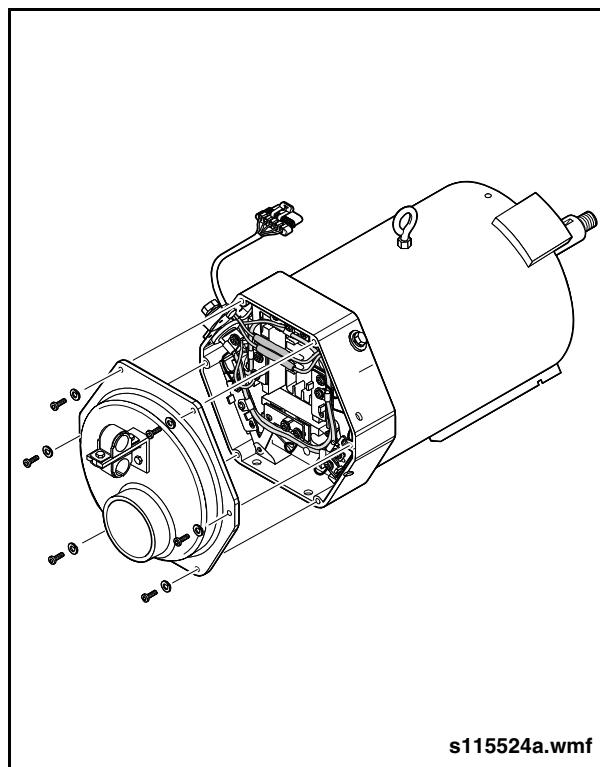

Fig. 9-16: Duct Housing Removal
4. Remove the duct housing from the Anti-Drive End (ADE). *See "Fig. 9-16: Duct Housing Removal" on page 26.*